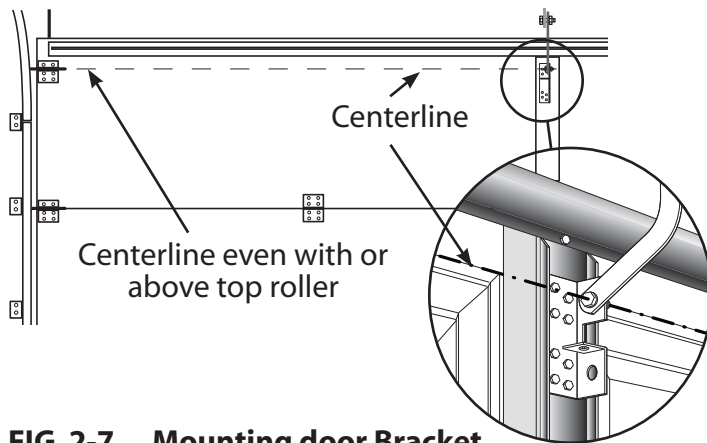

FIG. 2-7 Mounting door Bracket
- Door bracket is mounted as high on door as possible along vertical centerline and **NO LOWER THAN** top set of rollers (Fig. 2-7).